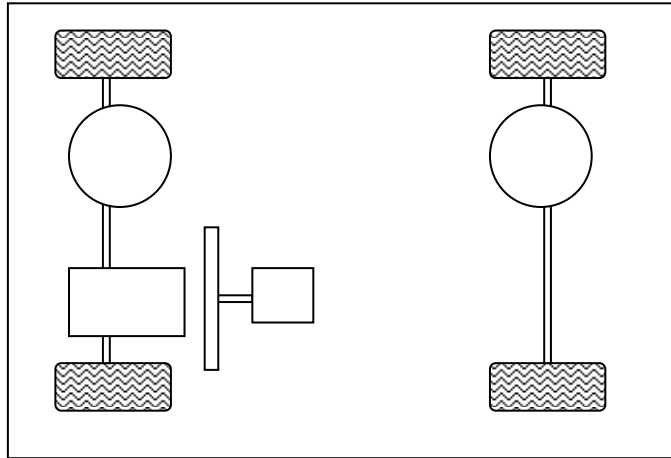

Fig. 1
- (vi) Complete fig. 1, labeled it and identify the layout of vehicle.